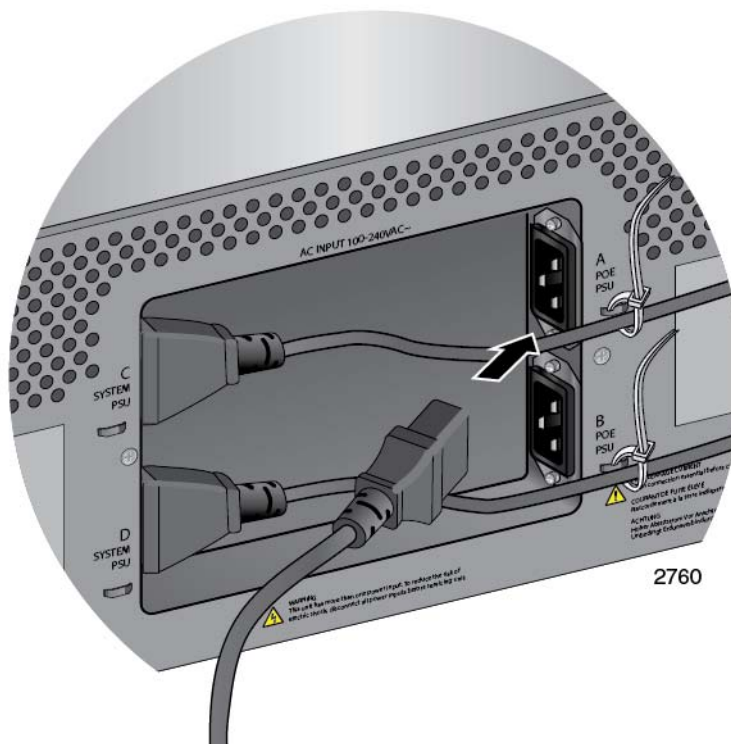

Figure 128. Connecting the AC Power Cord for the AT-SBxPWRPOE1 Power Supply
2. Plug the AC power cord that comes with the power supply into one of the plugs, as shown in Figure 128.